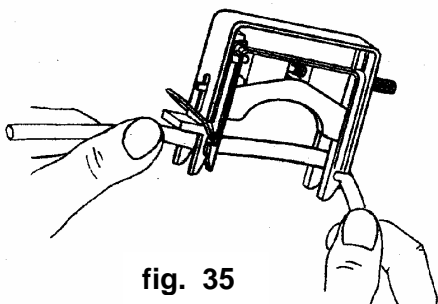
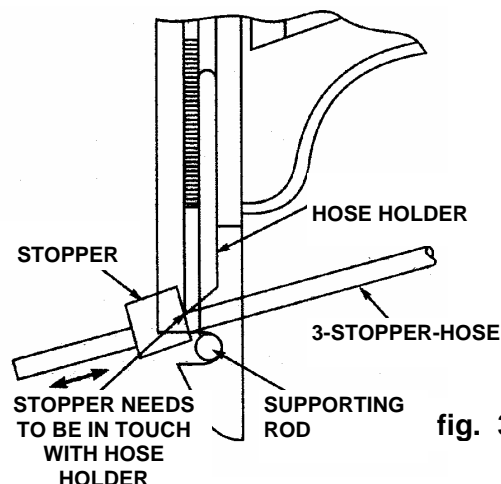

fig. 35
fig. 36
- Load approved 3-stopper-hose in cassette (refer to fig. 35). Slip stopper on both ends of the cassette to the hose holder (refer to fig. 36).
- Hook hose cassette over one of the carrier rods, while holding hose between cassette feet and pressing its against the hose holder (refer to figs. 36 & 37).